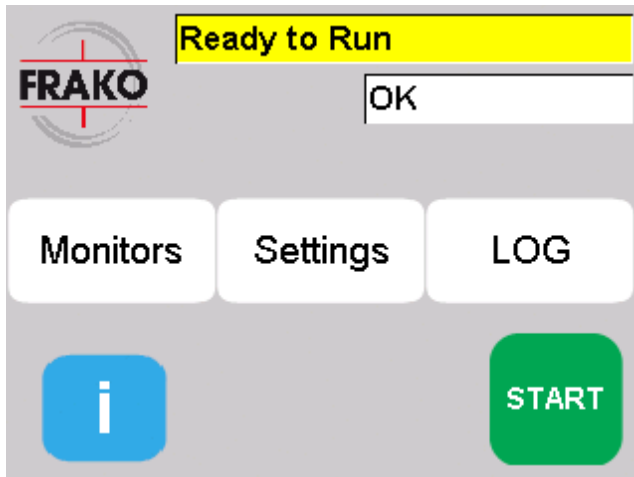

Figure 55. Main view, unit is ready to run.
9. Go back to the Main view. It should look like Figure 55 (Unit is ready to run).
Unit is in *Ready to run* –state and is not running. (Figure 55. Main view, unit is ready to run.)